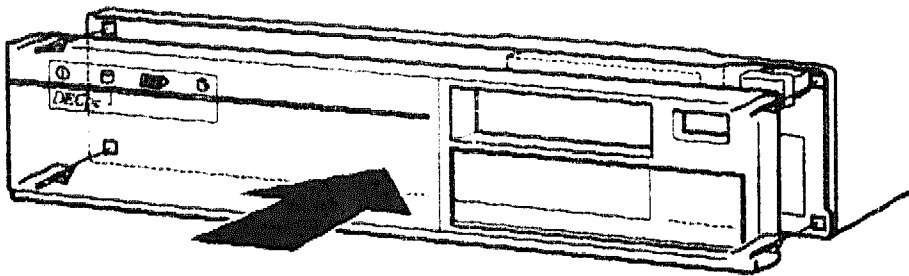

Figure 3-46 - Aligning the Front Cover
2. There is a small ribbon cable attached to the front cover. Put this ribbon cable through the slot in the front of the computer chassis and align the four clips on the Front Cover with the holes in the front of the computer's chassis (Figure 3-46).